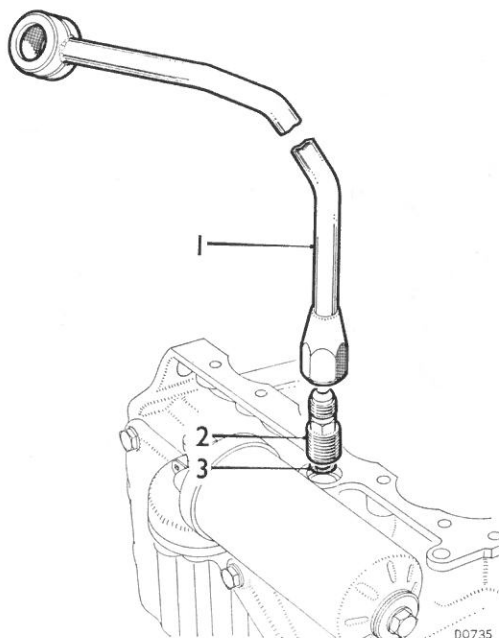

Fig. Aa.9
- (9) Remove the gear change bell-crank lever clevis pin and nut and lift off the bell-crank lever. Remove the bell-crank lever pivot.
- (10) Fit the nylon protector sleeve Service tool 18G 1098 over the converter output gear.
- (11) Remove the nuts and set screws securing the converter housing to the transmission and lift away the housing.
- (12) Lever the main oil feed pipe from the transmission and oil pump.
- (13) Remove the idler gear, thrust washers, and the converter output gear assembly.
- (14) Remove the oil filter assembly and disconnect the engine oil feed pipe (Fig. Aa.9).
- (15) Remove the nuts and set screws securing the engine to the transmission and with suitable lifting equipment lift away the engine from the transmission.